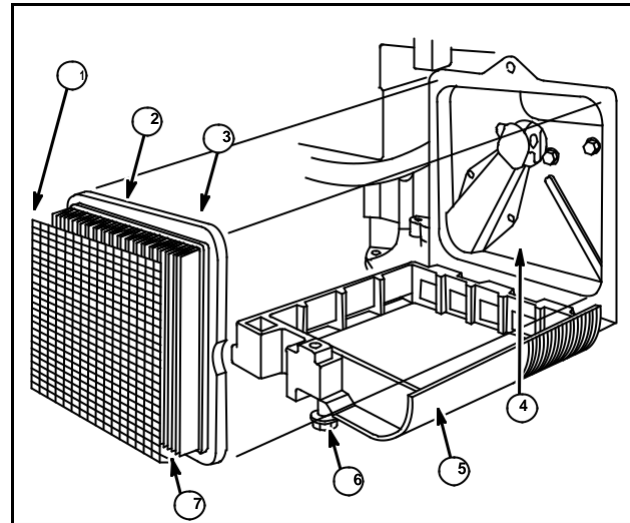
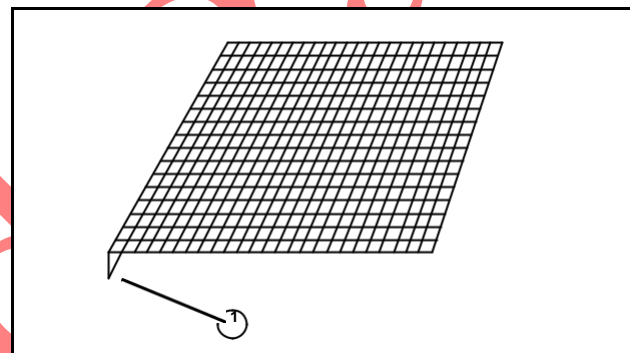

Fig. 7
Fig. 7A
Refer to Figs. 7 through 16 to determine air cleaner type and service procedures.
CARTRIDGE TYPE (Fig. 7)
1. Remove wing nut or loosen screw (6). Remove cover (5).
2. Carefully remove cartridge (3) to prevent dirt entry into carburetor.
4. Clean or replace cartridge (3) as described on page 11.
5. If equipped with pre-cleaner (1), Fig. 7A, slide off cartridge and clean as described on page 11. Note position of pre-cleaner edge (7), Fig. 7.
6. Assemble so pre-cleaner edge (2) touches base (4) in direction shown in Fig. 7.